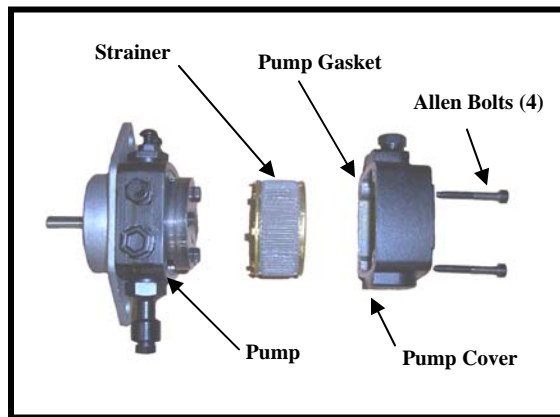

Figure 13 – Fuel Pump
--- Clean pump strainer. Remove pump cover for access. (figure 13). CAUTION!-Be careful of gasket.